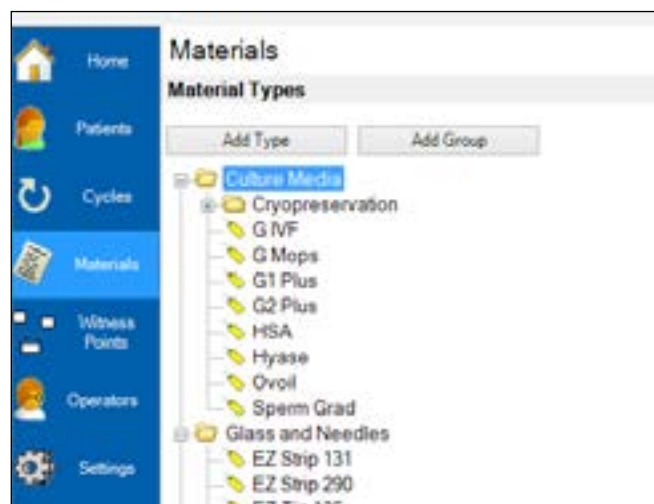

Figure 8-2 Viewing all material types
3. Use **Add New Type** and **Add New Group** to specify the top level of your materials hierarchy. See Figure 8-2.